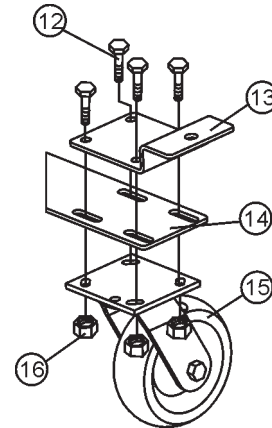

Figure 1. Castor Wheel Assembly
1. Assemble the Caster wheels (Figure 1) - Place the Caster mount plate on the adjustment plate so the bolt holes line up. Insert bolts through the holes in the two plates and push the castor wheel onto the bolts. Loosely secure the castor wheel to the adjustment plate using the provided nuts to allow for adjustment when attaching the castor wheels to the cabinet. Repeat for the other side of the castor wheel assembly.